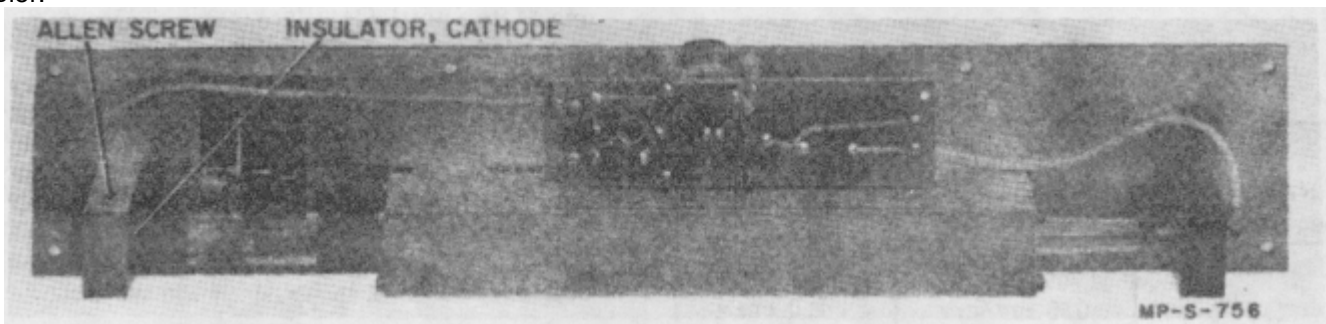

FIGURE 5-6. Internal View of Model 349A
d. Loosen Allen screw holding cathode insulator (see Figure 5-6).